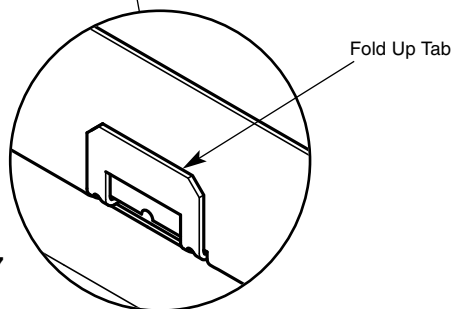

Fig. 7
2. Bend the tab up to secure (Fig. 7).